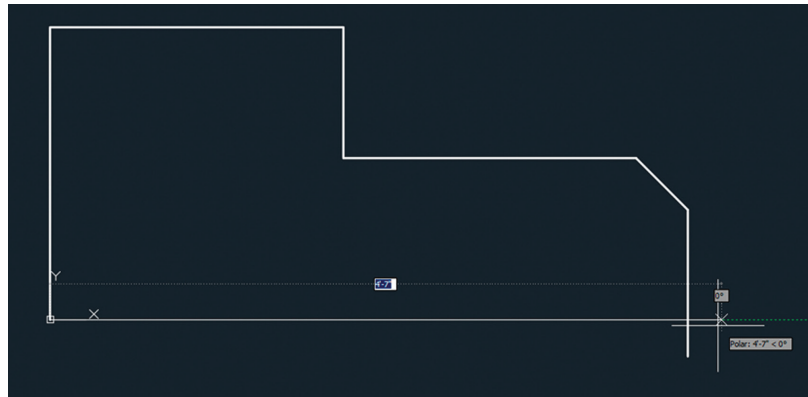

FIGURE 3.7 Drawing a horizontal line that overshoots the vertical line
8. Move the cursor horizontally to the right until it overshoots the last line drawn in step 5. Click to draw the line without worrying about its length (see Figure 3.7). Right-click to complete the command.